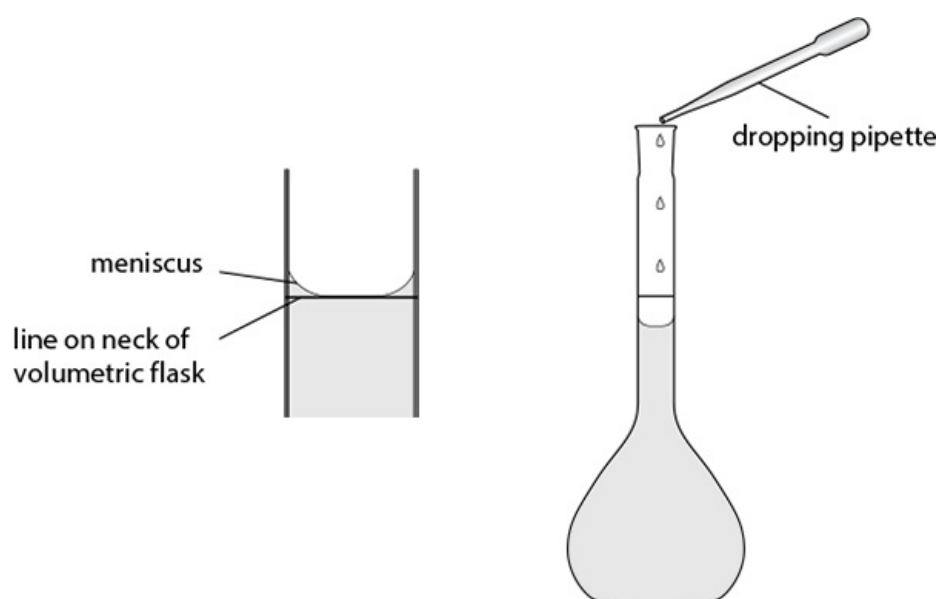

Figure P.2: Filling a volumetric flask
- 5 When the level of the liquid is just a few cm³ below the mark on the neck of the volumetric flask, take the dropper and *with great care* use it to add distilled water from the wash bottle to the solution one drop at a time until the lowest point of the meniscus is touching the line, as shown in Figure P.2.